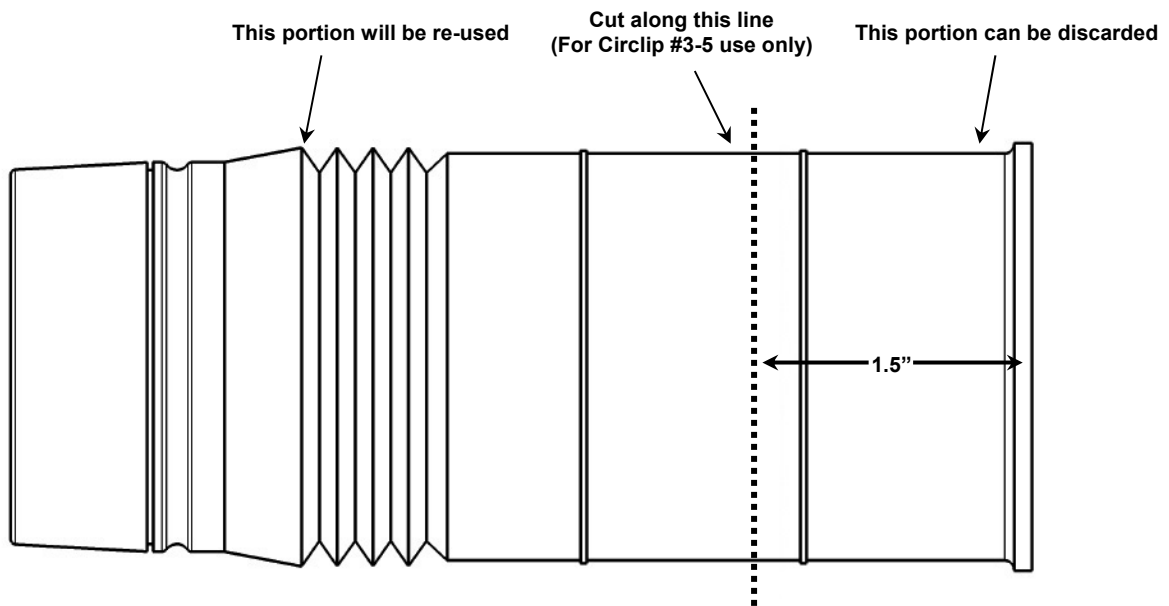

Figure 2: OE dust boot
- E. Using scissors, carefully cut the OE dust boot along the dotted line shown below in Figure 2: